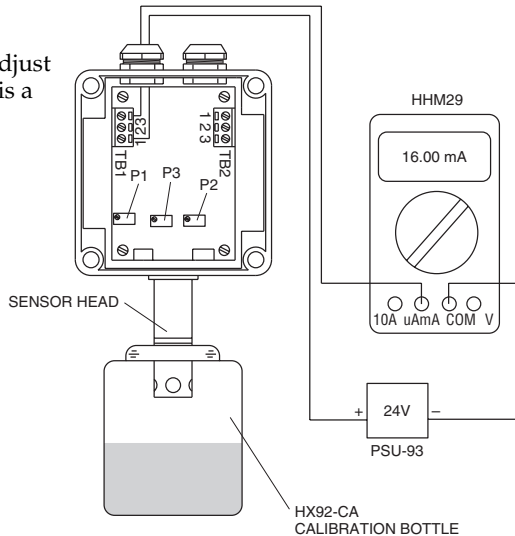

Figure 6 - HX93AC Calibration Procedure
2. Connect transmitter as shown in figure 6.